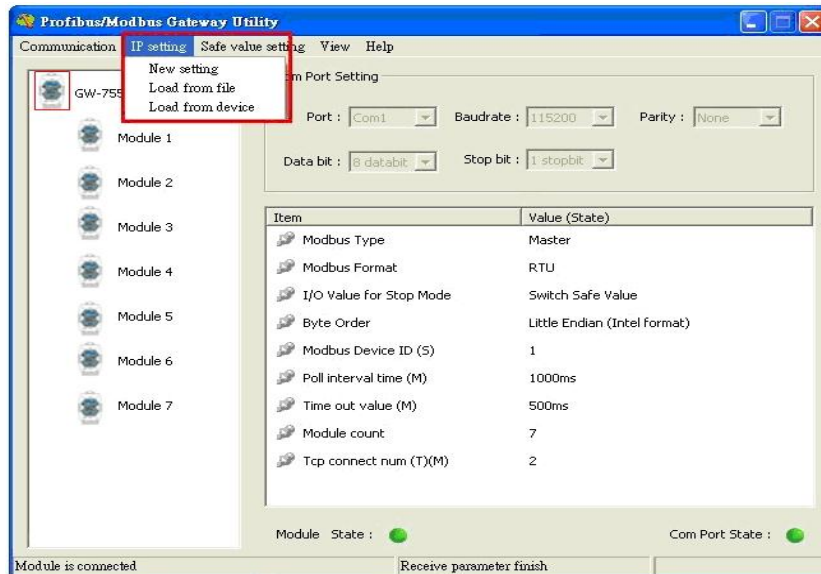

Figure 80 The menu of IP setting
There are 3 kinds of IP setting. They are (1) Open a new setting 、(2)Load from file 、(3)Load from device, as shown in **Figure 80**.